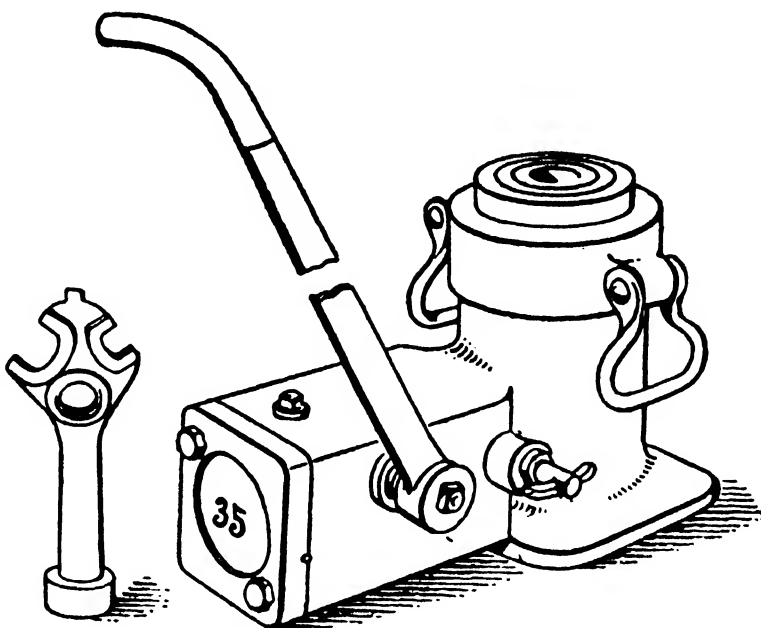

FIG. 22.—The Hydraulic-jack, Ship Model.
**The Ship-jack.**—Fig. 22 illustrates the shorter model of hydraulic jack called the ship-jack. Usually these are more powerful than the taller type previously described. The water tank and pump, as can be seen, are horizontally fixed to the vertical ram cylinder.